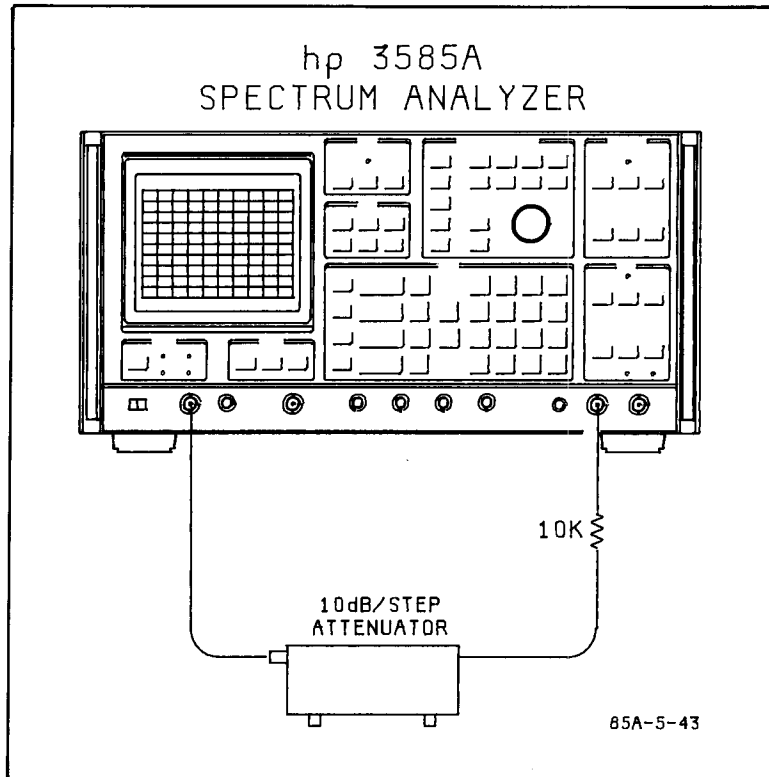

Figure 5-43. 1MΩ Input Capacitance Adjustment Set-Up
b. Replace the 50Ω termination with a 10kΩ series resistor ($\pm 1\%$, 1/8W, -hp- Part Number 0757-0442). This resistor should be connected as shown in Figure 5-43. Use short clip leads to connect the resistor to the attenuator and the 3585A 1MΩ input.